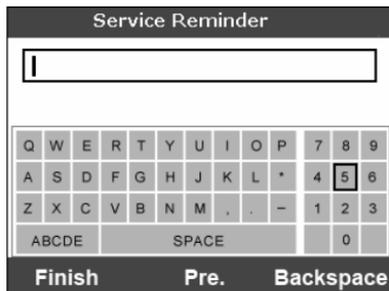

Figure 7.11
**[Edit]:** Press this key to pop up a soft keyboard to facilitate your input. (Figure 7.11)